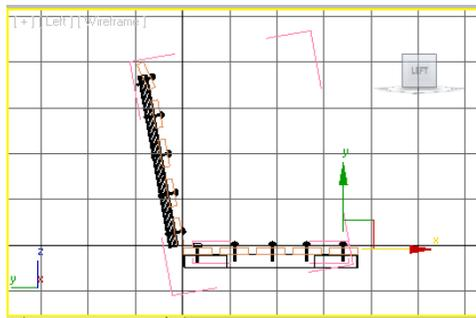

Figure 2-85 Alignment of *right side seat rivets* in the Left viewport
- Choose the **Select and Move** tool and align all rivets of *right side seat rivets* group with *horizontal seat support*, as shown in Figure 2-85.